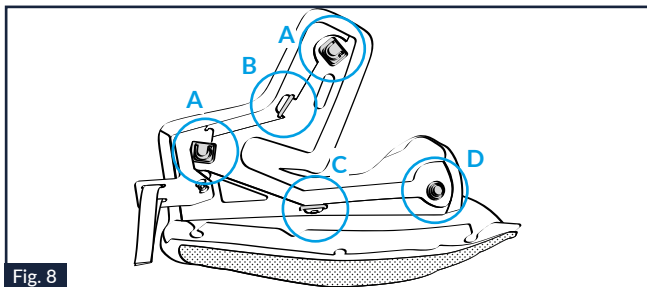

Fig. 8
6.1. Unhook the three eyelets of the rear frame of the left cheek pad next to the two hooks "A" (top and front) and snap button "D" (rear) on its back, respectively (Fig. 8).
6.2. Take the top "B" and bottom "C" flaps of the frame out of the respective loops on the back of the frame (Fig. 8).
11.2. Insert the upper "B" and lower "C" flaps of the frame in their loops on the back of the frame (Fig. 8).
11.3. Hook the three eyelets of the rear frame of the left cheek pad near the two "A" hooks (top and front) and snap button "D" (rear) on the back (Fig. 8).